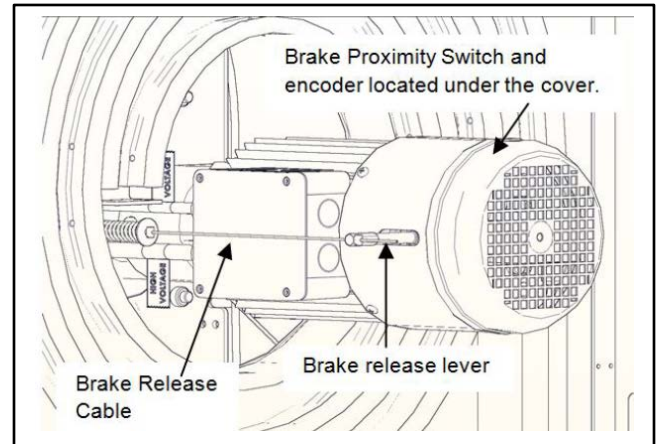

**Figure 80**
1. Route the drive motor/motor brake power cable, leading from the motor junction box, to the control panel. (See Figure 80.)